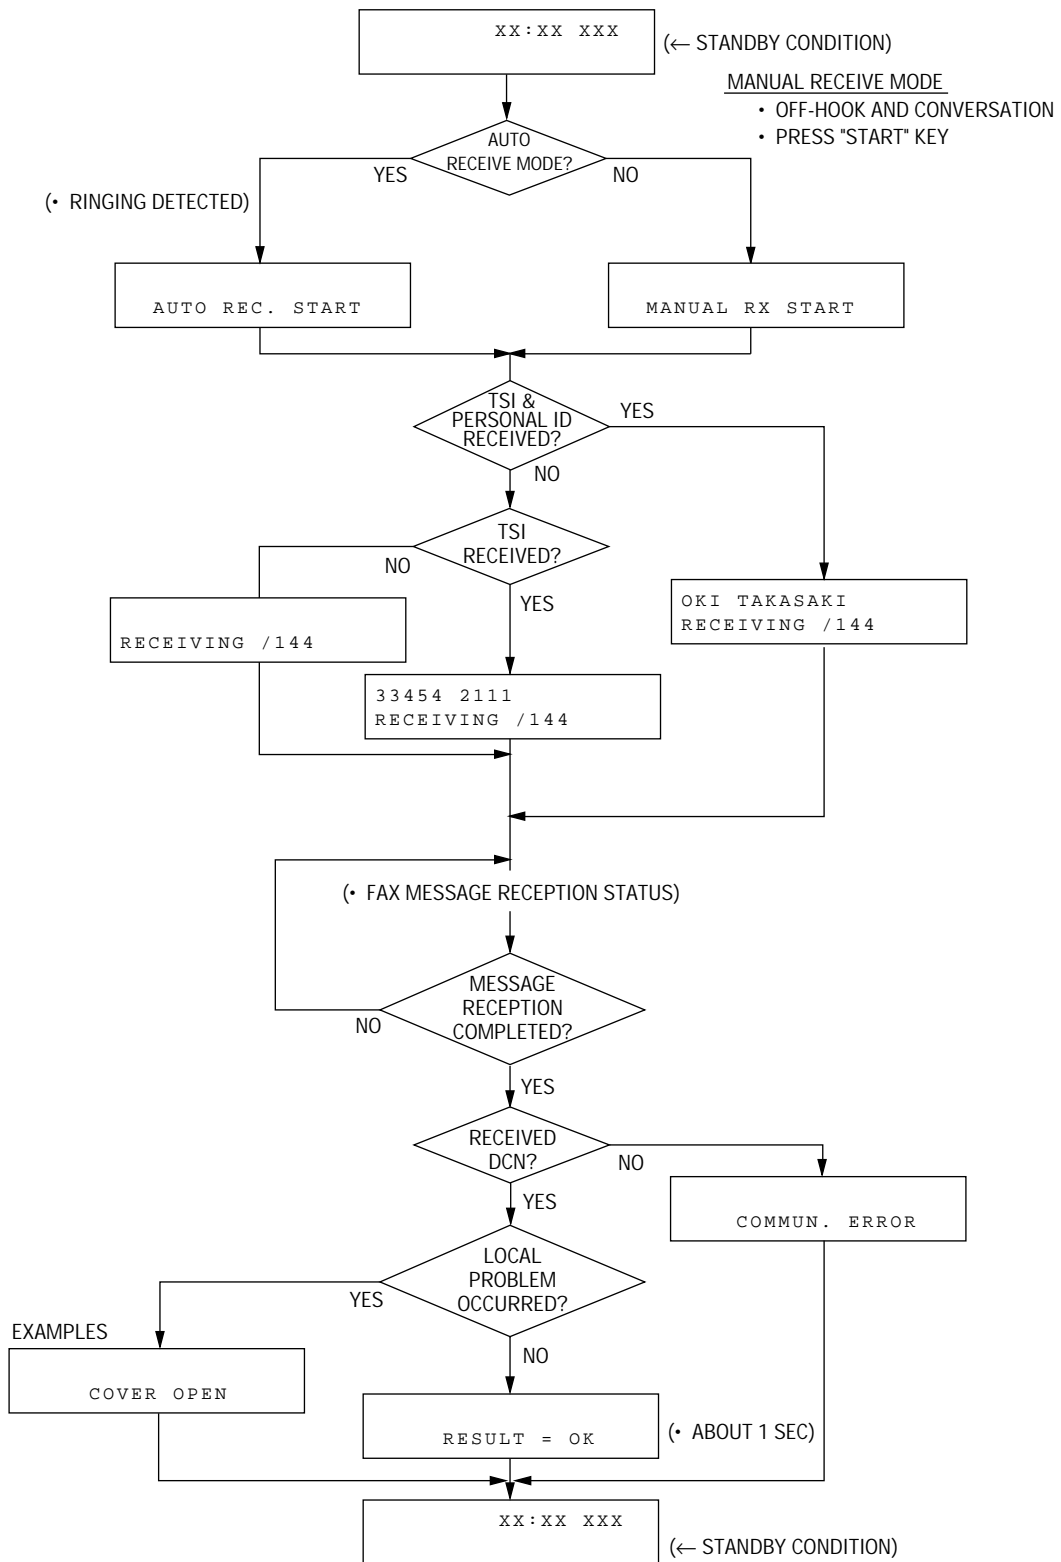

Figure 2.9 Typical Reception Flow
- (1) Use another machine for dialling.
- (2) Make sure that
- (3) Typical message reception flow is described in Figure 2.9.